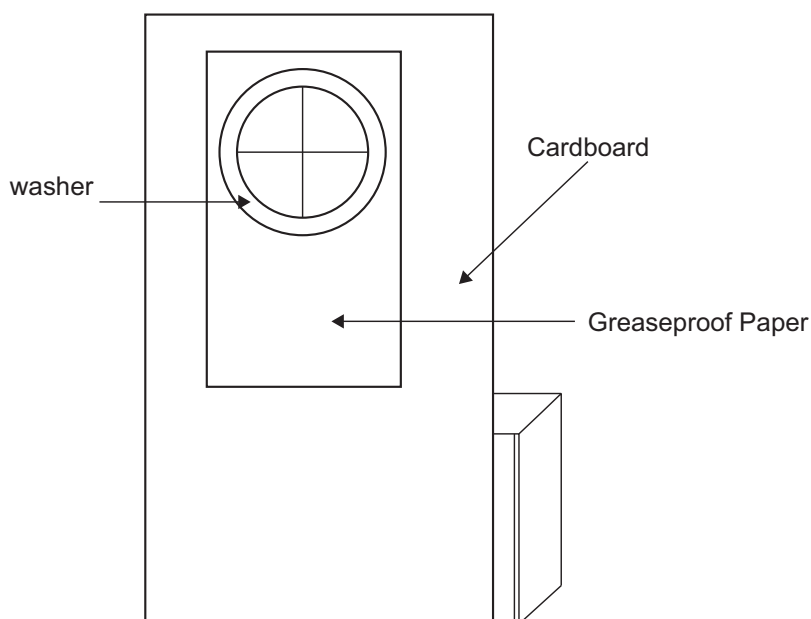

Fig. 2.1
- (iii) At the top of the card cut a hole the width of which is slightly smaller than the diameter of a washer as shown in **Fig. 2.1**.